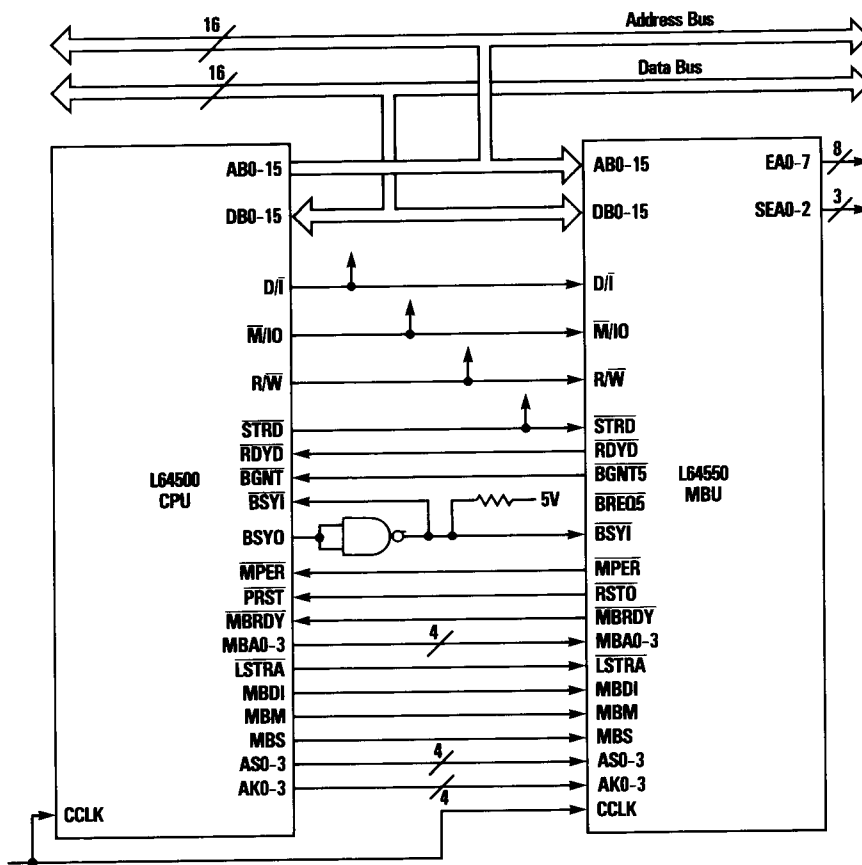

Figure 3. L64500 CPU and L64550 MBU Connection Diagram
**Bus and L64500 CPU Interface** — This interface allows for high speed data transfer with minimum impact on system performance. Furthermore it allows for easy connection of each device. See Figure 3.